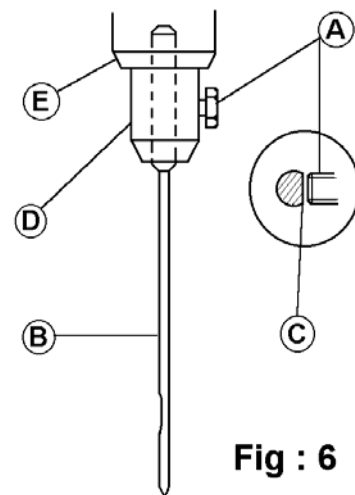

Fig : 6
-Loosen screw **(A)** (see Fig :6) and remove the needle **(B)**.